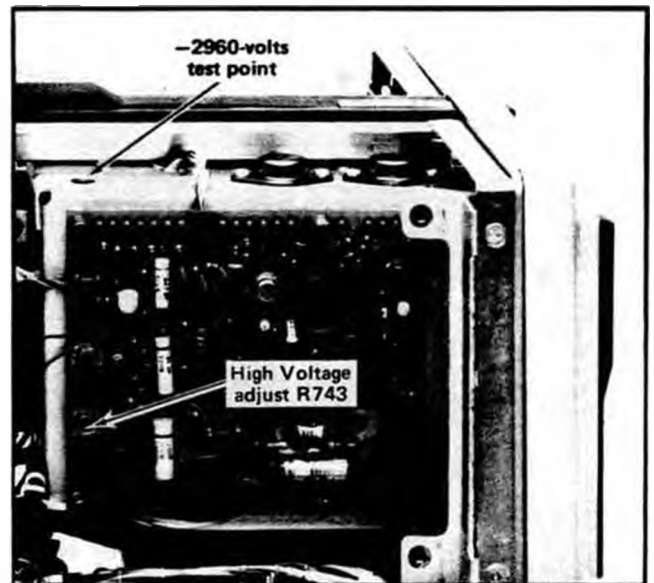

Fig. 5-6. Location of -2960 Volts test point and High Voltage adjust R743.
b. Connect the DC voltmeter (VOM) between the high voltage test point (see Fig. 5-6) and ground.3
e. ADJUST—High Voltage. R743 (see Fig. 5-6) for a meter reading of -2960 volts.